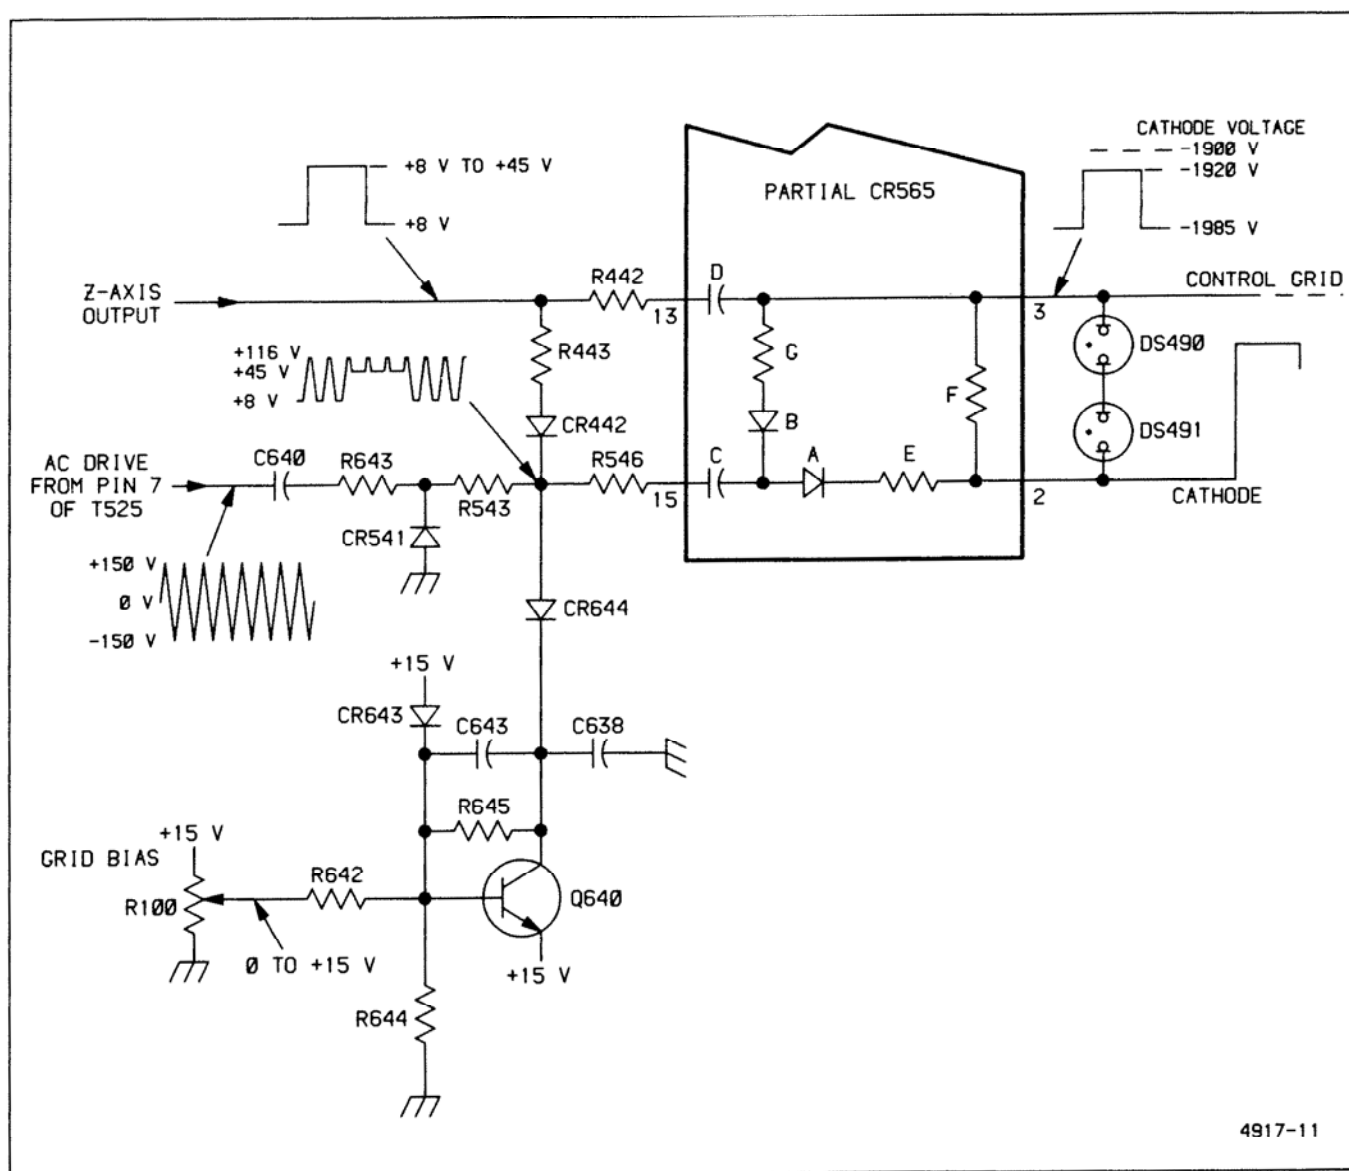

Figure 3-10. DC Restorer.
The DC Restorer provides crt control-grid bias and couples both the dc and the low-frequency components of the Z-Axis drive signal to the crt control grid. This circuit allows the Z-Axis Amplifier to control the display intensity by coupling the low-voltage Z-Axis drive signal (VZ) to the elevated crt control grid potential (about -1.9 kV). Refer to Figure 3-10 for the following description.
DC RESTORATION. The DC Restorer circuit in the High-Voltage Module is referenced to the crt cathode voltage via a connection within CR565. Capacitor C (labeling shown in Figure 3-10), connected to pin 15 of CR565, initially charges to a level determined by the difference between the Z-Axis signal level and the crt cathode potential. The Z-Axis signal sets the level on the positive plate of capacitor C through R443, CR442, and R546; the level